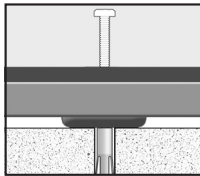

Figure 6
6. Insert the supplied Hex Head Bolt through the bolt-hole from the inside of the safe and into the Drop-in Anchor (Figure 6).